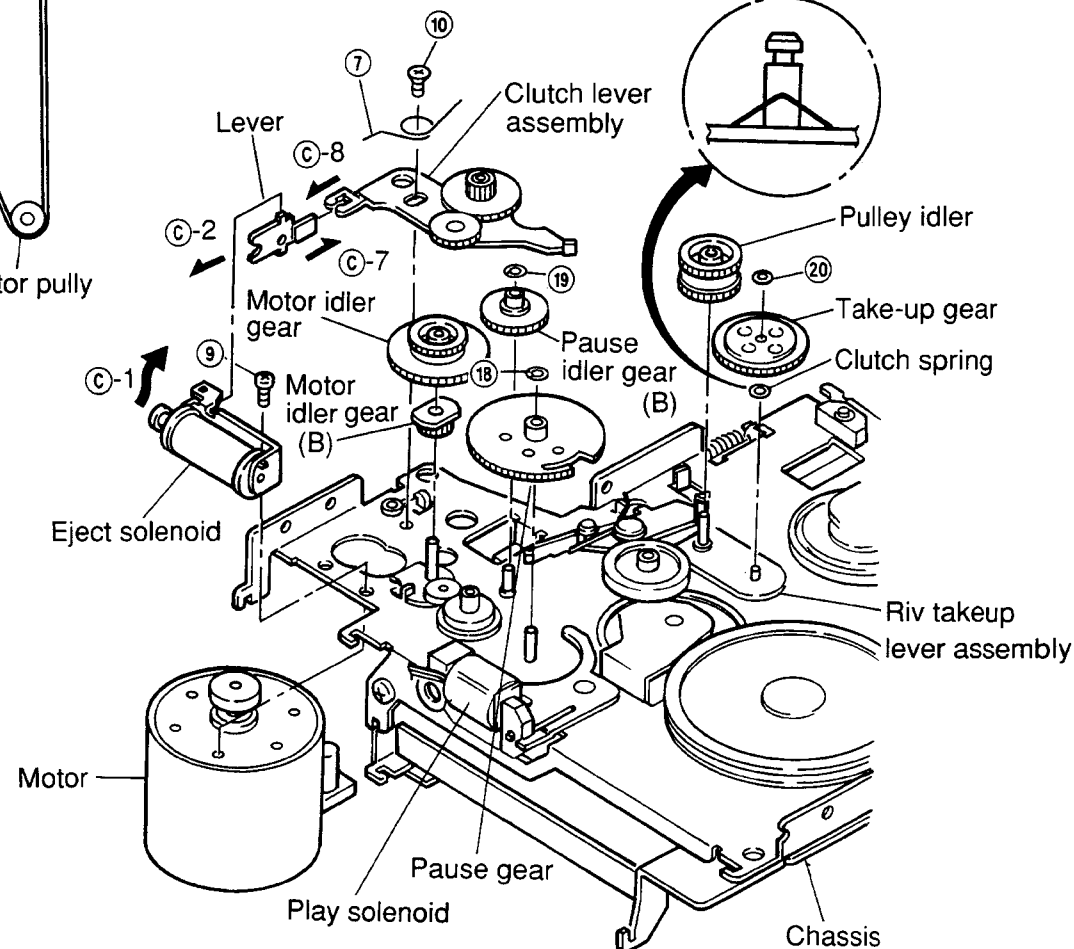
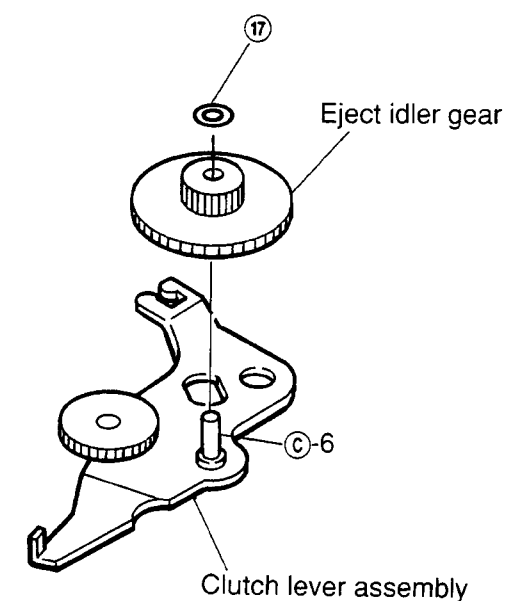

Figure 10
Figure 15
- (1) After removing the belt, remove spring ⑦ as shown in Figure 10.
- (3) Remove two screws ⑨ and ⑩, and remove the motor, taking care not to damage the motor idler gear. (Refer to Figure 10.)
- (4) Mount the new motor following the removal steps in the reverse order.
- (2) Remove screw ⑨ and remove the play solenoid as shown in Figure 10.
- (3) Align position ⑥-1 of the new solenoid with position ⑥-2 of the lever and fasten the screw as shown in Figure 10.
- (4) Lead the wire through the tube and solder it.
- (1) After removing the motor, remove the motor idler gear and the motor idler gear (B) and remove the clutch lever assembly as shown in Figure 10.
- (2) Remove M1.2 lock washer (17) and remove the eject idler gear as shown in Figure 15.
- (3) Mount the new gears and clutch lever following the removal steps in the reverse order.
Note: When mounting the gears to the lever, apply grease (FLOIL 425A) to the position C-6 as shown in Figure 15. Align the position C-7 with the position C-8 and mount the clutch lever as shown in Figures 10 and 15.
- (1) Remove M1.2 lock washer (18) and remove the pause gear pulling it up from the stud of the chassis as shown in Figure 10.
- (2) Mount the new gear following the removal steps in the reverse order.
- (1) After removing the motor and the motor idler gear, remove M1.2 lock washer (19) and remove the gear by pulling it up from the stud of the chassis as shown in Figure 10.
- (2) Mount the new gear by following the removal steps in the reverse order.
- (1) After removing the belt and the pulley idler gear, remove M1.2 lock washer (20) by pulling it up from the stud of the riv take-up lever assembly as shown in Figure 10.
- (2) Remount the take-up gear following the removal steps in the reverse order.